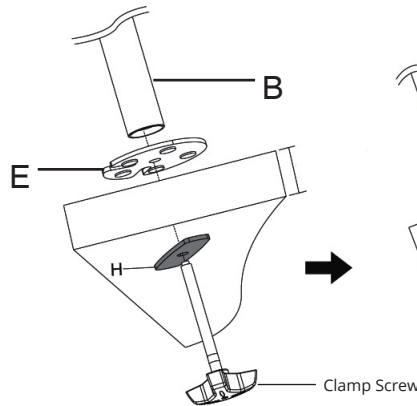
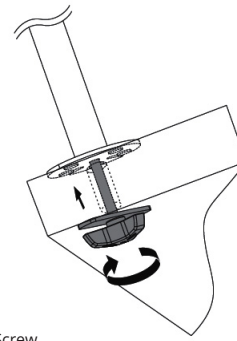

Figure 5
Figure 6
3. Position the Tube Support (B) and Upper Grommet Plate (E) on the mounting surface and secure them using the Lower Grommet Plate (H) and Clamp Screw, see **Figure 5** and **Figure 6**.
4. Position the Tube Support (B) and Upper Grommet Plate (E) on the mounting surface and secure them using the Lower Grommet Plate (H) and Clamp Screw, see **Figure 5** and **Figure 6**.